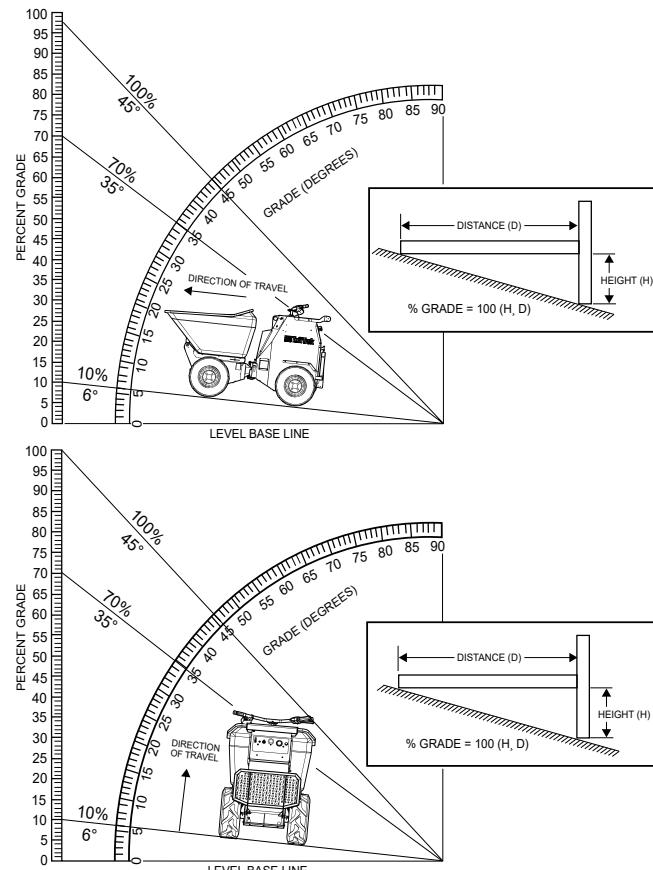

Figure 16. Determining Grade of Slope
1. When traveling on a slope, it is necessary to determine the grade of the path. The buggy can travel up or down slopes not exceeding 25° (Figure 16). **DO NOT** travel on steeper slopes.
To determine the % grade of your path of travel, use the formula and graph in Figure 16.